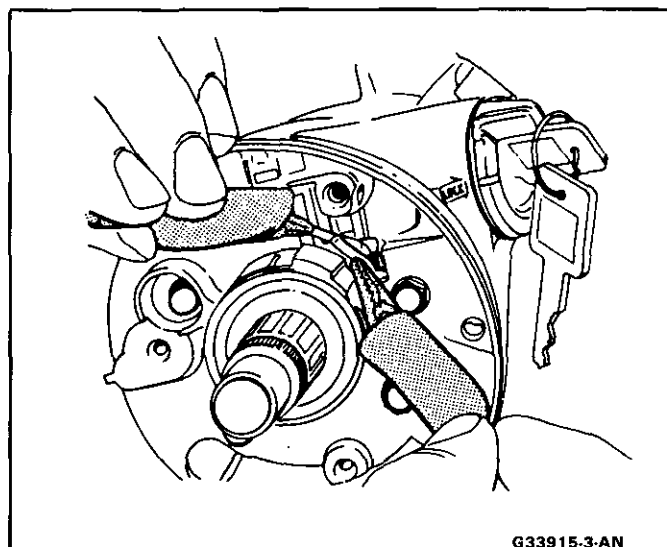

Fig. 4 Checking Reminder Switch
4. If the problem has not been found, connect a continuity meter (light) to the reminder switch probes (Fig. 4). Fully insert and remove the key from the lock cylinder. If the light is on when the key is in the lock cylinder, and off when the key is out, the function is normal. Retrace the diagnostic steps starting at Step A. If the light is not on, the fault is in the lock cylinder or reminder switch.